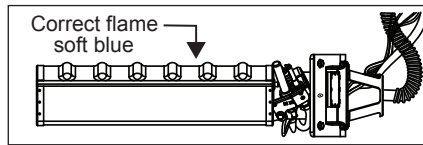

Figure 41 - Burner Flames
- Inspect the burner flames through the viewport and compare them to Figure 41. The flames should be very small with a blue haze and small amount of yellow or orange at the edges. After several minutes of operation, the burner screen may glow red. If large flames are observed at any time, shut-off the unit and call a qualified person.